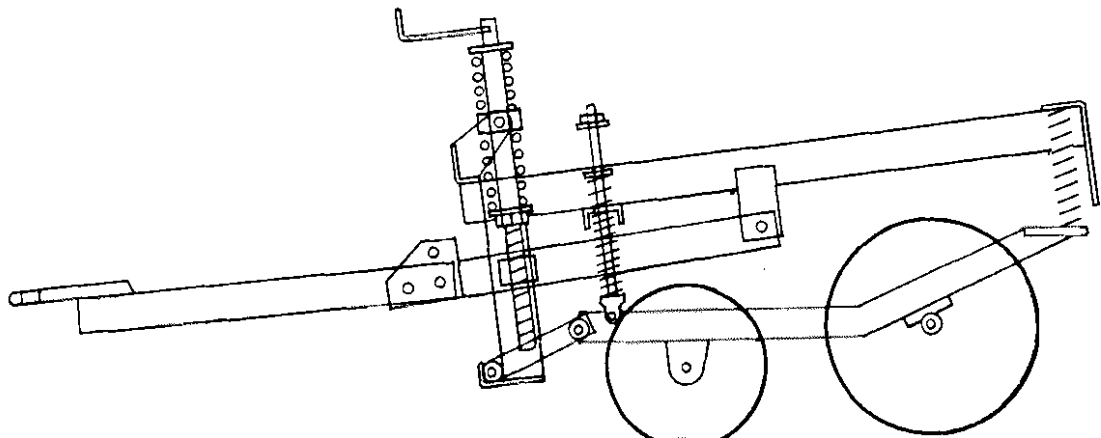

FIGURE 1. DRAG ARM SEEDING UNIT
D. DRAGARM FRONT PIVOT (See Fig. 1)
E. GUIDE PLATE BARS (Fig. 1)